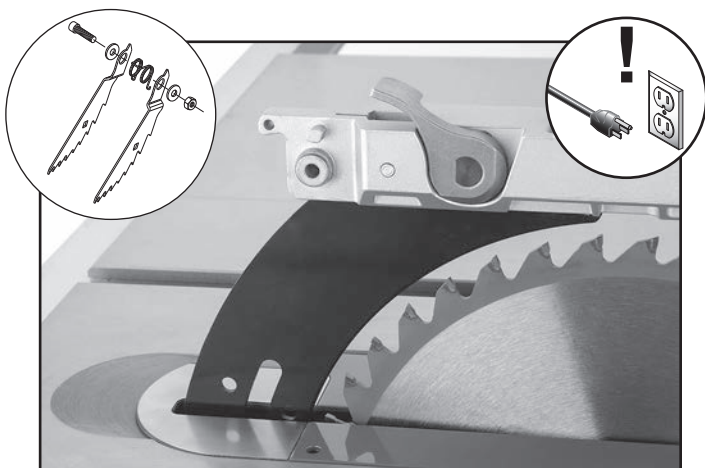

Figure 49. Example of pawls removed.
2. Remove cap screw, locking hex nut, washers, pawls, and retaining spring from blade guard assembly (see **Figure 49**).